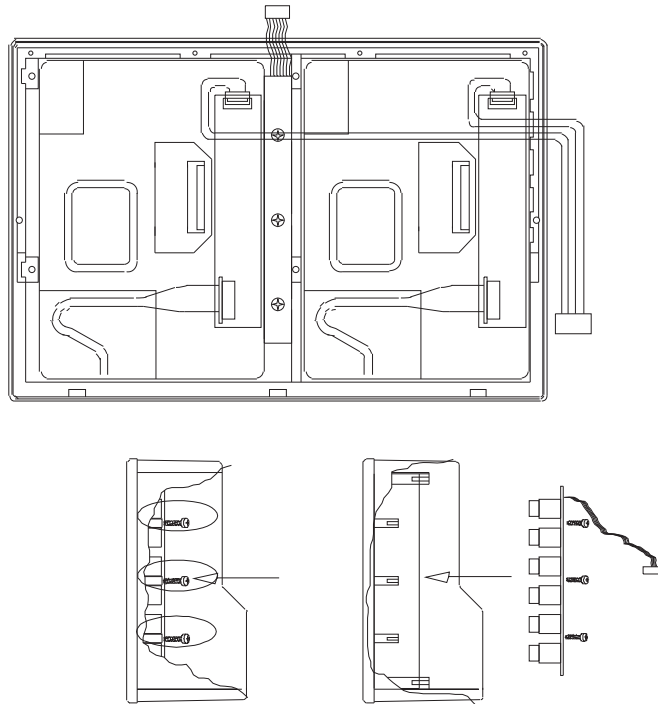

Fig. 8-20: Connecting the display
12. Connect flat cables to display unit. Avoid damage of the flat cables because of canting. (fig. 8-20)